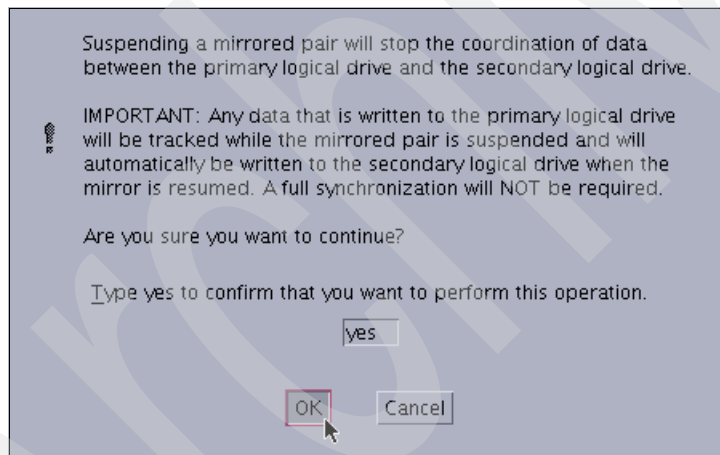

Figure 13-42 Suspend Mirroring: Confirmation dialog
- The Suspend Mirroring: Confirmation dialog is displayed (Figure 13-42).